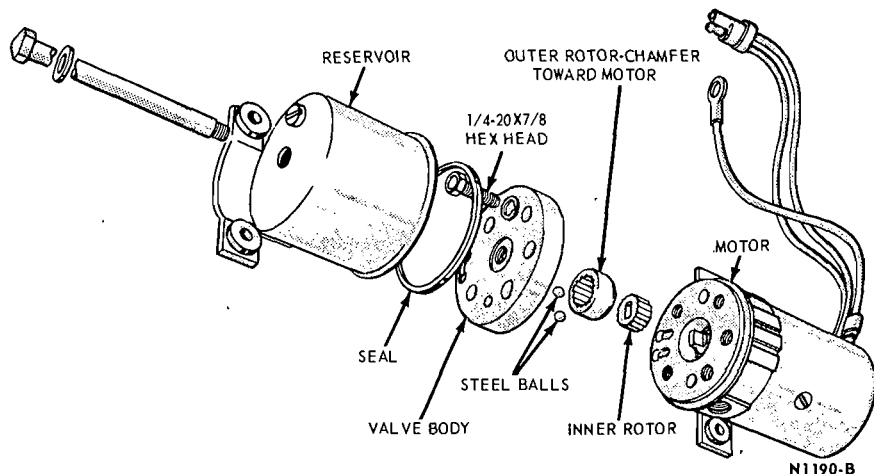

FIG. 6—Motor and Pump Disassembled
3. Remove the center bolt from the reservoir cover (Fig. 6).